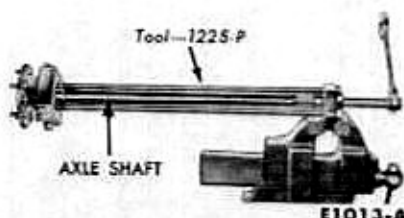

FIG. 3—Wheel Bearing Removal
5. Remove the bearing and inner retainer from the axle shaft with the tool shown in Fig. 3.